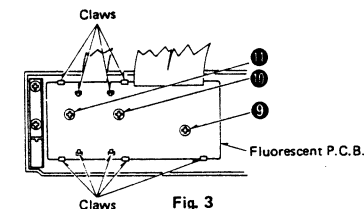

Fig. 3
2. Remove the 3 setscrews [Fig. 3 : ⑨ ~ ⑪] of the fluorescent display tube P.C.B. and release the 9 claws, then the fluorescent display tube P.C.B. can be removed.